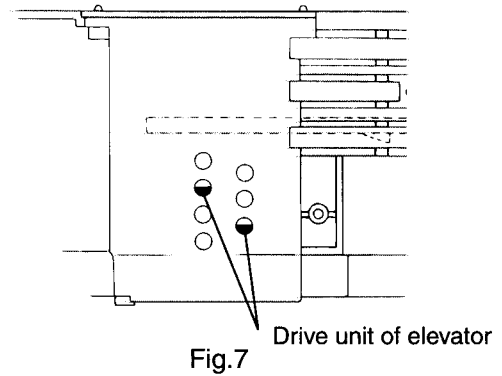

Fig.7
- [Caution]** In case the driver unit elevator is not at above position, set the elevator to the position as shown in Fig.7 by manually turning the pulley gear as shown in Fig.8.